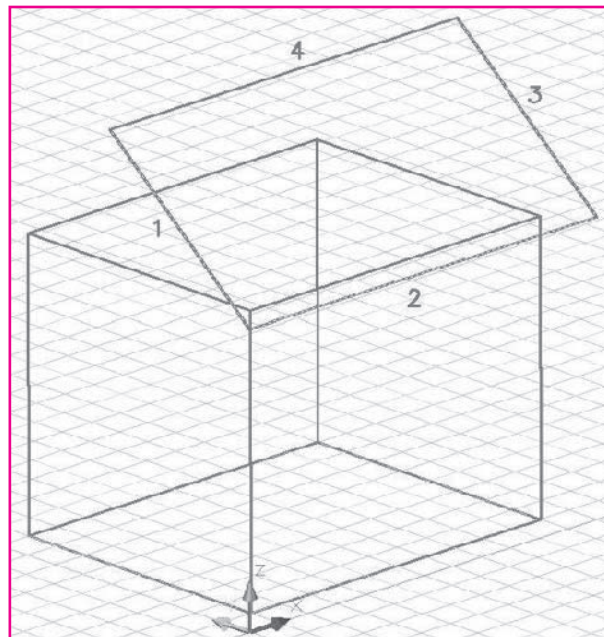

Fig. 40-3
2. Enter the **MIRROR** command, select lines **1**, **2**, and **3**, as shown in Fig. 40-3, and press **ENTER**.